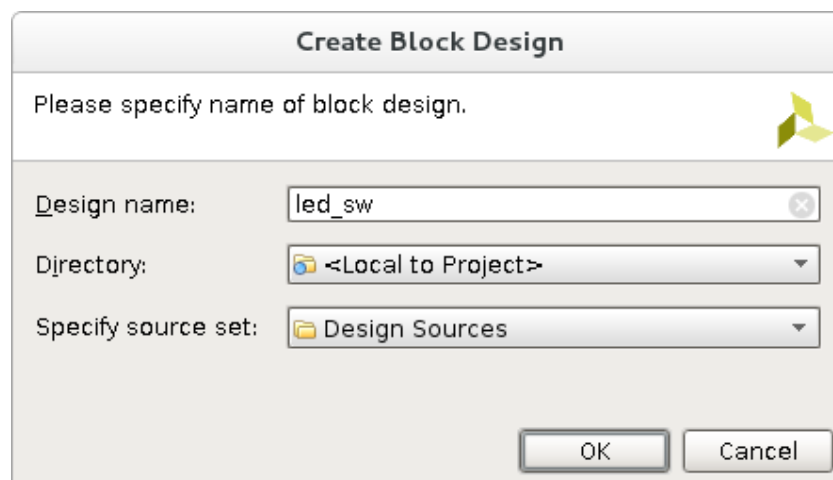

Figure 7: Create Block Design
- (c) On the left side, in the Flow Navigator under the IP Integrator section, click on 'Create Block Design'. A window opens where you can specify the name of your design. Leave the 'Directory' and the 'Specify source set' as they are. Click on the 'OK' button. (Figure 7)